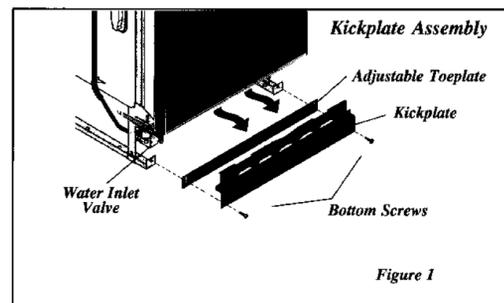

Figure 1
1. Remove two (2) screws at front of the kickplate assembly using a #2 Phillips screw driver.
2. Tilt and pull forward to remove. (Figure 1).